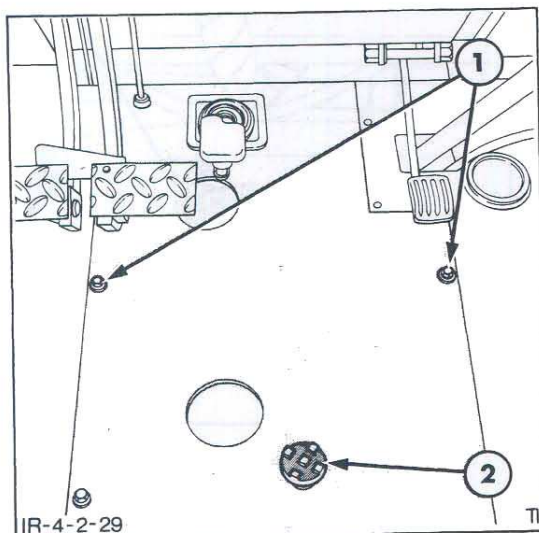

Figure 29
3. Remove the bolts securing the transmission access plate to the cab floor, Figure 29, and lift off the plate.